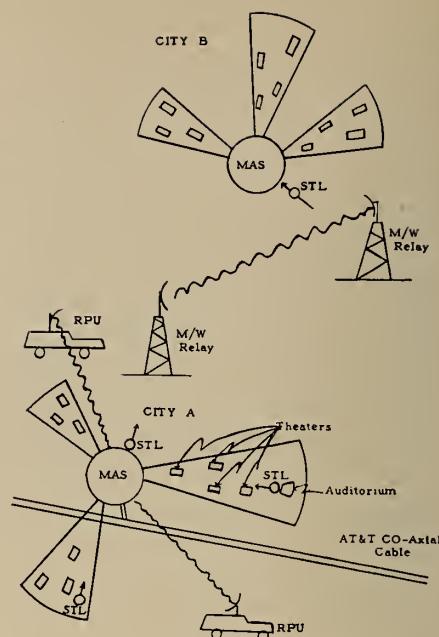

FIGURE 1
The use of transmission facilities by such co-operative groups is most easily explained by reference to Fig. 1, which is a diagram of a typical theatre Tv system in two imaginary cities, A and B. City A is assumed to be located on the A.T.&T. coaxial cable, and City B is assumed to be located off the coaxial cable about 35 miles east of City A. City A contains 25 motion picture theatres which are part of the co-operative Tv group and receive programs from it.
Programs would be beamed in the necessary directions to permit reception by each of the theatres equipped to receive the transmissions. Three such directional beams are pictured in Fig. 1 at City A. In the frequencies involved, a low-power video transmitter would provide satisfactory signals to cover the area in which the associated theatres were located.
4. *Intercity Relays*—The one-way intercity relay circuit from City A to City B, contemplated in Fig. 1, is estimated to cost from \$25,000 to \$50,000. This figure includes both the transmitting and receiving units.